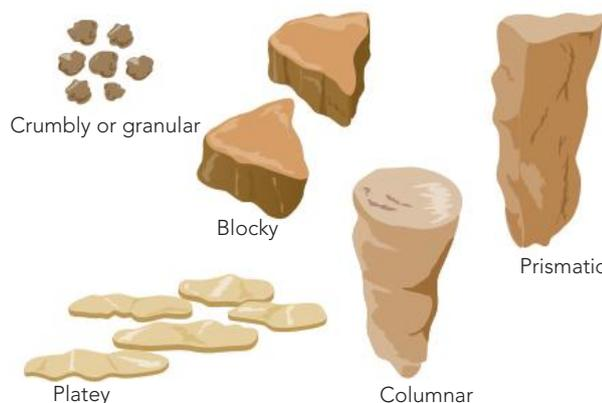

Figure 15.4 Various types of soil aggregate
Soil structure can be determined either visually or by specific measurement. Visual assessment involves recognising the shapes of the various soil peds, as shown in Figure 15.4. Other determinations of structure include the measurement of bulk density and soil porosity.
- 9 Use Figure 15.4 to illustrate various soil peds.